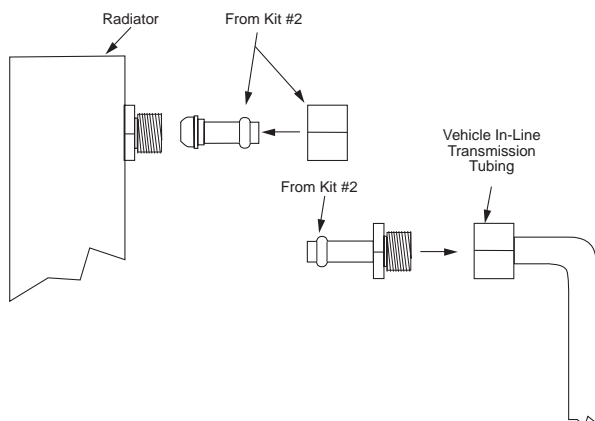

Figure 59. Kit #2 Installation on the BMW
Kit #2 is installed on the BMW as illustrated in Figure 59.
2. Use the fittings in kit #7 the same way as the fittings in kit #2 (see KIT #2 INSTRUCTIONS and Figure 59). Extra o-rings have been included in the case for kit #7.